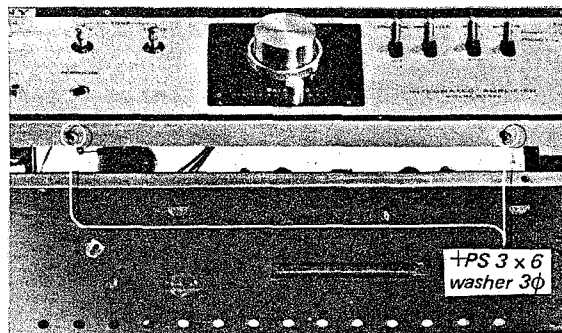

Fig. 2-3 Front panel removal
3. Remove the two screws (+PS 3 X 6) securing the bottom side of the front panel to the chassis. See Fig.2-3.